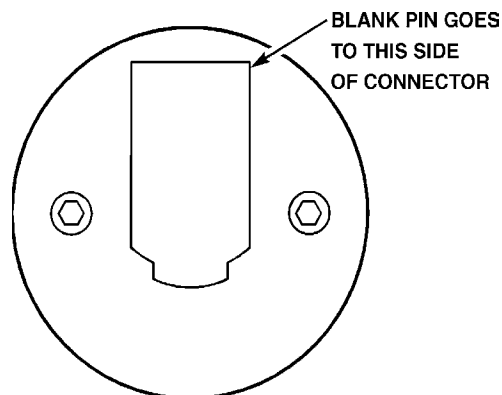

Fig. 5-2 Jog handle encoder.
4. Unplug the cable leading to the jog handle encoder. IMPORTANT! The blank pin side of the connector must face as shown in Fig. 5-2 when reconnecting; otherwise, damage may occur to the machine.